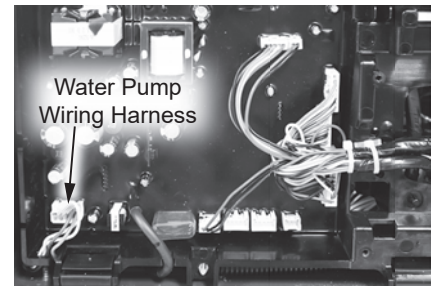

Figure 177 - Water pump wiring harness location
- 14 Locate the water pump wiring harness on the control board panel as shown in Figure 177. Disconnect and route the wiring out of the way for ease of removing the water pump.
- 30** Place the water pump into the water heater cabinet, routing the wiring harness cable behind the condensate collector and under the control board panel as shown in Figure 177. Use caution not
35 Lift the control board panel up and reconnect the water pump wiring harness previously disconnected in **Step 14**. Slide the wiring through the slot in the circuit board panel as shown in Figure 177. Lower control board panel.